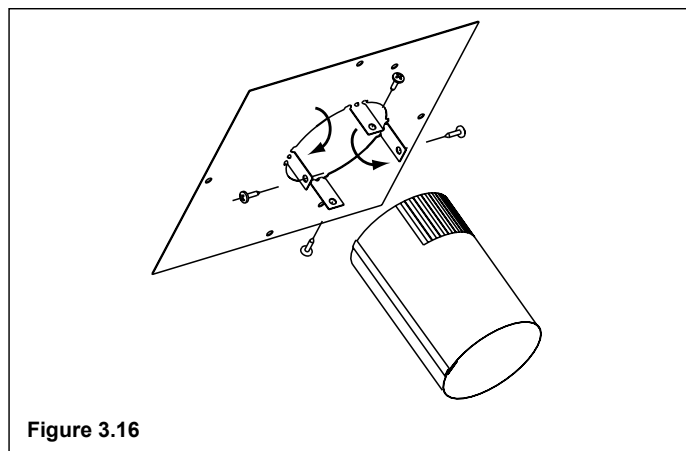

Figure 3.16
- On the mounting plate, hand bend the tabs downward. Slide the tabs over the outside of the starter pipe. Secure with four sheet metal screws included in fasteners package. Figure 3.16.